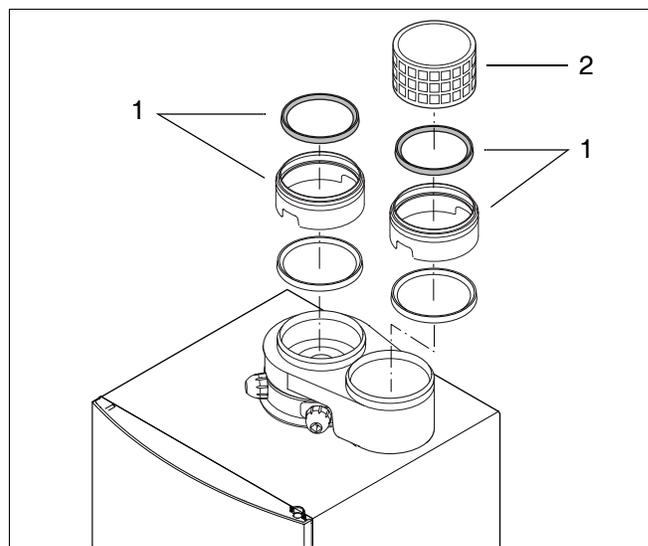

Fig. 19 Connecting the flue gas adapter (parallel)
- When installing PVC vent pipes remove the upper lip ring and insert (fig. 19, pos. 1).
- In case of open venting, use basket (fig. 19, pos. 2) on the air intake.